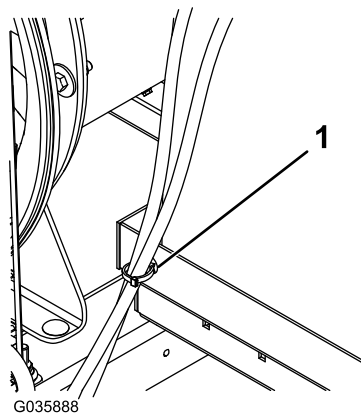

**Figure 9**
11. Attach the vent line hose to the carbon canister using the previously removed hose clamp (Figure 9).